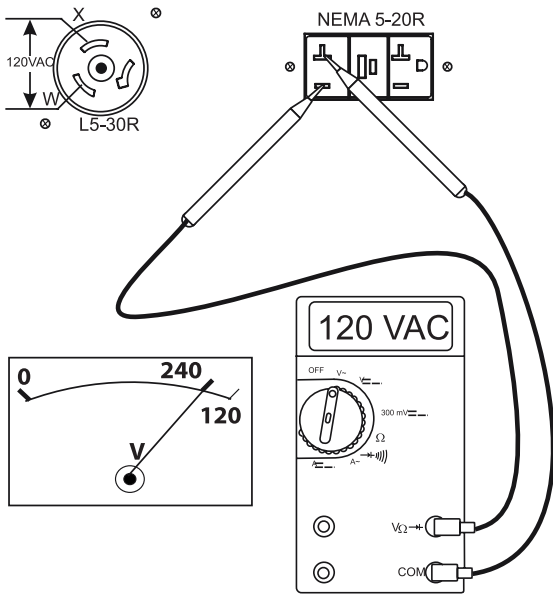

Figure 30. 120V GFCI/L5-30R Receptacles
- Read the voltmeter on front panel of generator (Figure 30) and verify that 120 VAC is displayed. Using an external voltmeter as shown in Figure 30, verify that 120 VAC is present at the 120V twist-lock and duplex receptacles.